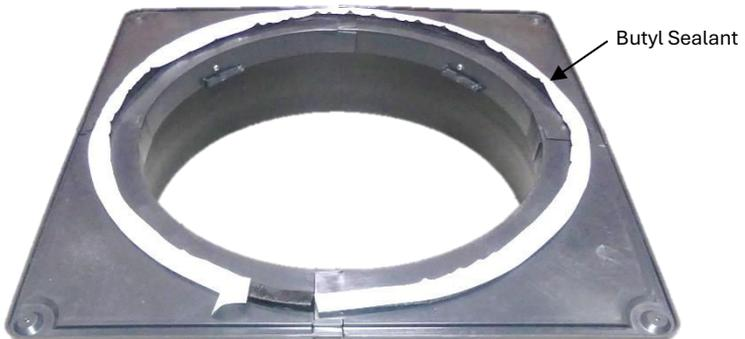

Figure 12: Butyl Sealant Install for 24 in. Circular Opening.
- 11.) With the backing tape upward, apply 83" of thick butyl (3/4") around the bottom of the base flange, overlapping and kneading the ends of the butyl together (Fig. 12). Remove the white tape from the butyl and discard the tape.